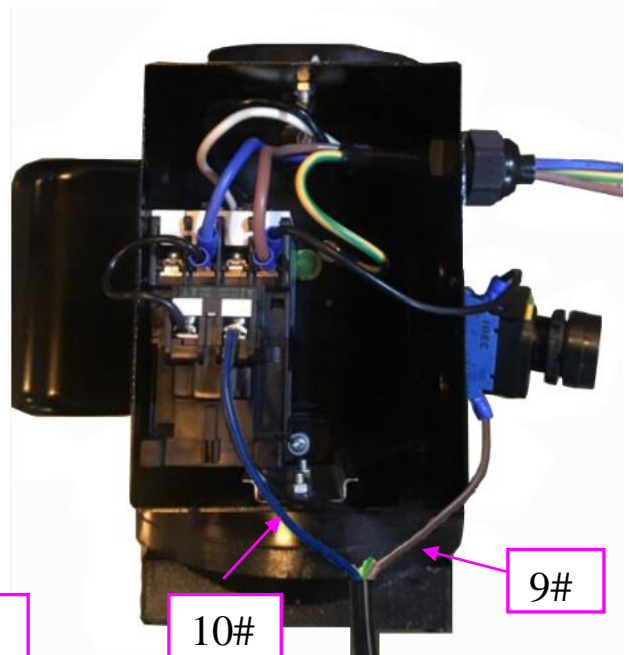

Fig. 36
3. Connecting the Limit Switch: Removing the wire of connecting terminal **4#** on control button and terminal **1#** on AC contactor firstly (See Fig. 35), then connecting wire **10#** of the limit switch with terminal **4#** of the control button and connecting wire **9#** with terminal **A1** on AC contactor respectively (See Fig. 36).